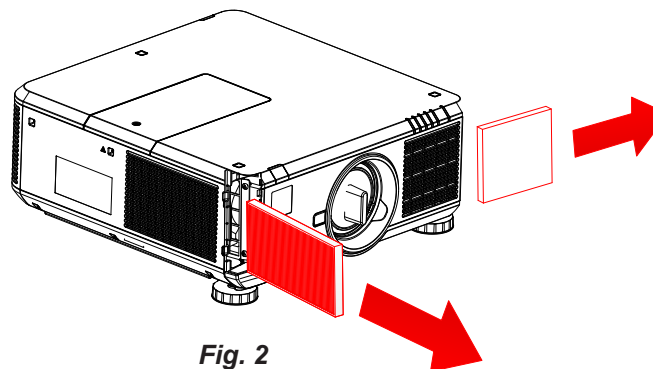

Fig. 2
2. Pull out the old filters as shown in **Fig. 2**.
2. Unscrew the four captive screws securing the color wheel (**Fig. 2**).